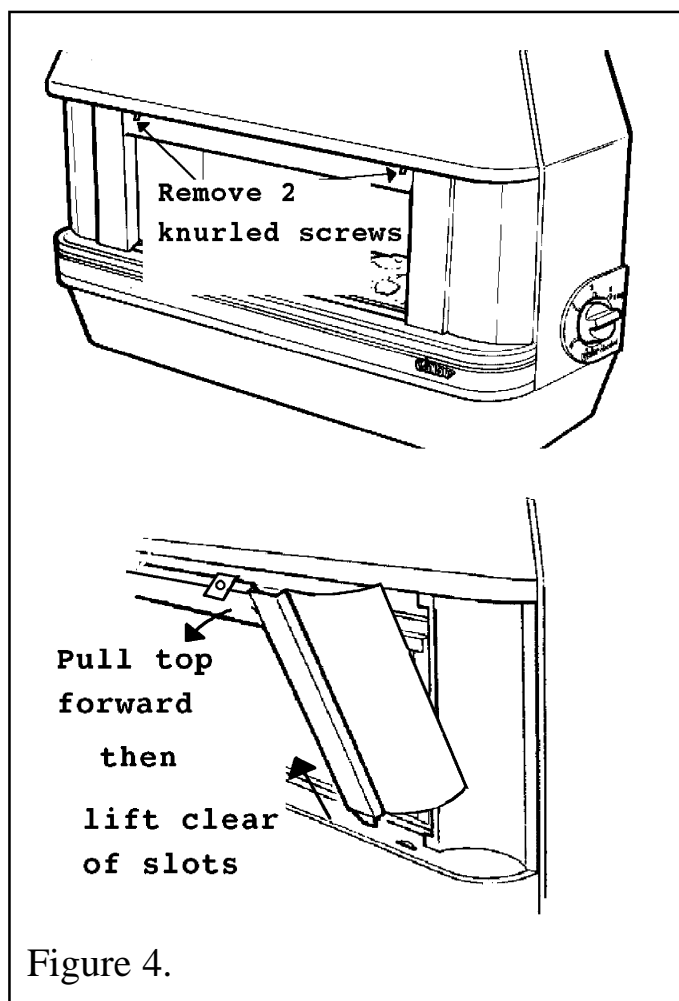

Figure 4.
1. Unscrew and remove the two knurled screws which are under the fascia canopy (See figure 4).
2. Pull the top of the window surround forward (See figure 4).
3. Lift the window surround up to clear the slots in the fascia apron (See figure 4). Put the surround in a safe place.